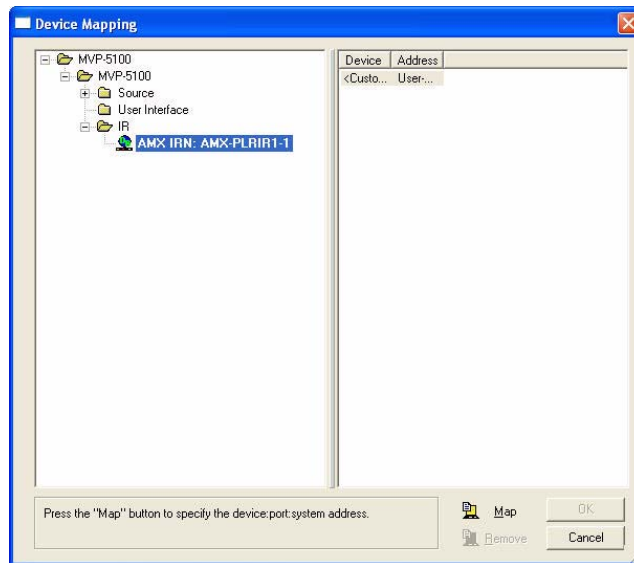

FIG. 75 Device Mapping window
- When the IR file appears in the Workspace Tree, right-click on the file and select *Device Mapping...* to open the *Device Mapping* window (FIG. 75).